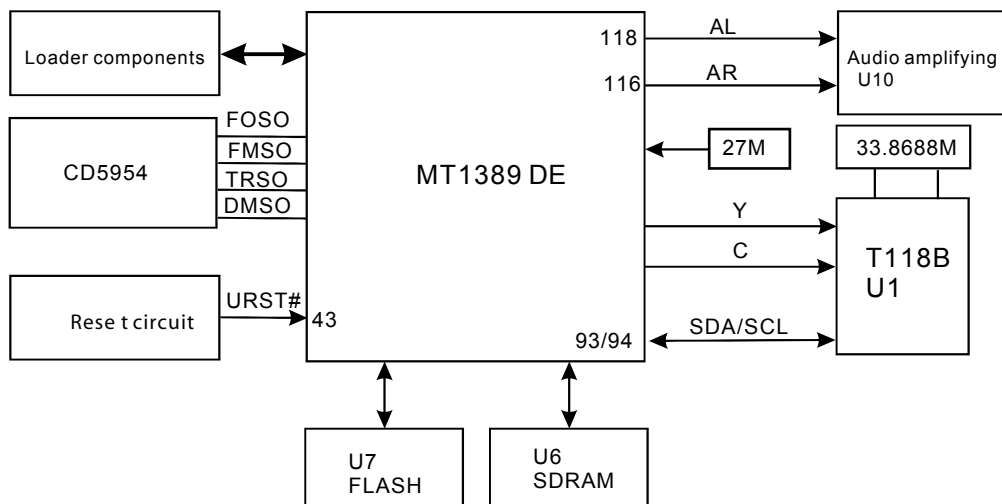

Figure 3.2.10.1 Decode circuit block diagram
1. Decode circuit block diagram is shown as in the following figure 3.2.10.1: